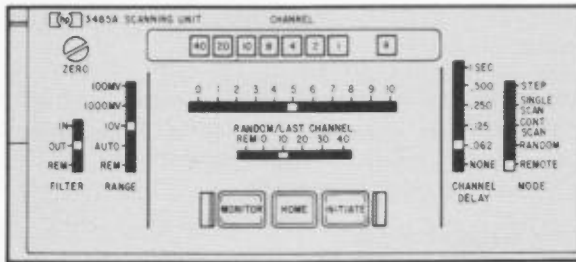

FIGURE 3
- All functions except MODE are set up manually on the 3485A's front panel. Refer to Figure 3 for an example. These manually selected functions include:
Preprogrammed operation of the 3485A where PROGRAM EXECUTE starts an automatic scanning sequence. CHANNEL DELAY, RANDOM/LAST CHANNEL, RANGE and FILTER are set-up manually on the front panel (see Figure 3 for an example). READY indicates the completion of a scanning sequence. The first reading on Channel 1 will require an additional 2.2 ms to automatically enter the program into storage within the remote control unit. SCAN INHIBIT and PRINTER HOLD-OFF both stop the scanner from automatically advancing to the next channel and allow time for the system to absorb the data (SINGLE SCAN or CONTINUOUS SCAN modes).